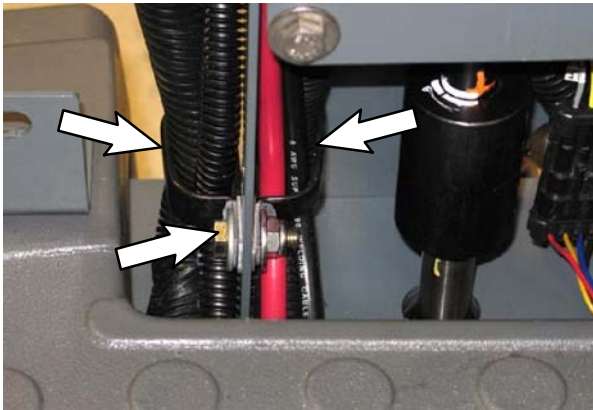

FIG. 52
32. Reinstall the cable clamps. (Fig. 52)